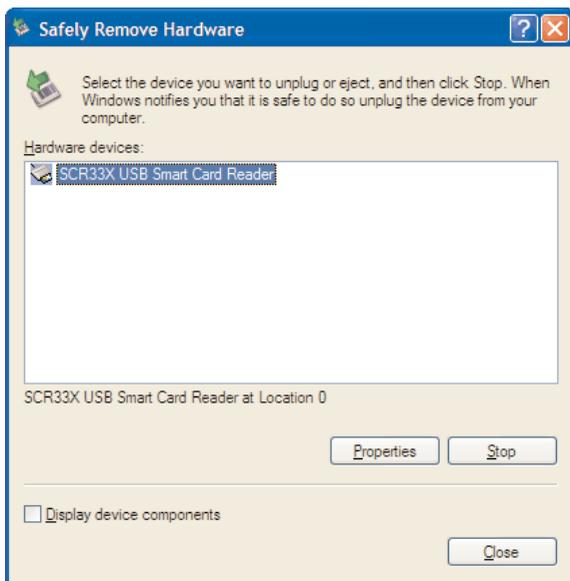

Figure 46: Safely Remove Hardware Screen
6. Verify no other smart card devices are running at the same time. Right-click the “Safely Remove Hardware” icon that will be present when the card reader is attached (Figure 47, below). Per Figure 46, verify “SCR33X USB Smart Card Reader” is the only active smart card reader. If any other smart card reader is running, disable it in your device manager. For additional help, contact your IT department or call 1-800-90TURBO (+1 214-379-6000) and request ChefComm Support.